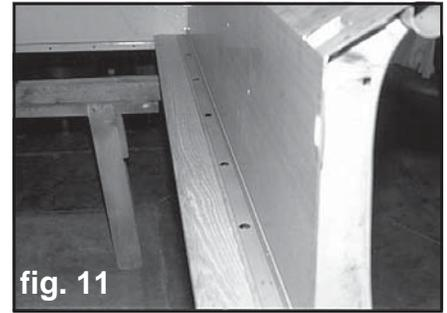

fig. 11
13. Install the edge boards underneath the angle strips as in step 10. Place 5/16"-18 x 1-1/2" carriage bolts through the angle strips through the boards. See figure 11. Leave off the lock washers and nuts for now.